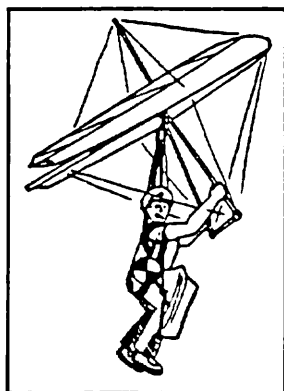

Figure 55
a) Harness leg straps too long / hanging too low below the glider, and / or hands too low on the control bar. This reduces pitch authority and prevents an adequate flare. (Figure 55)